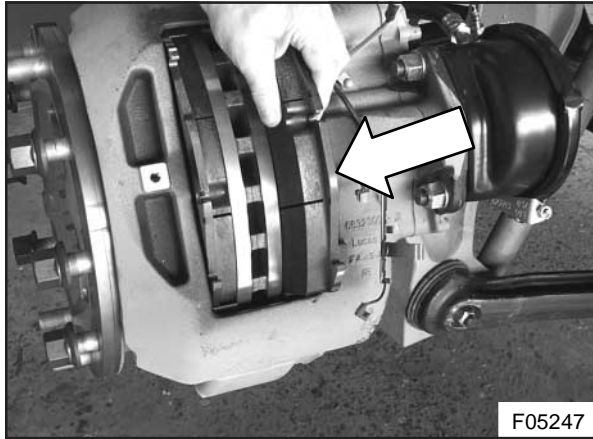

Figure 19 : Inner pad removal
7. Remove and discard the old wear indicators with their leads and plug. Take the inner brake pad out of the caliper (see Figure 19).